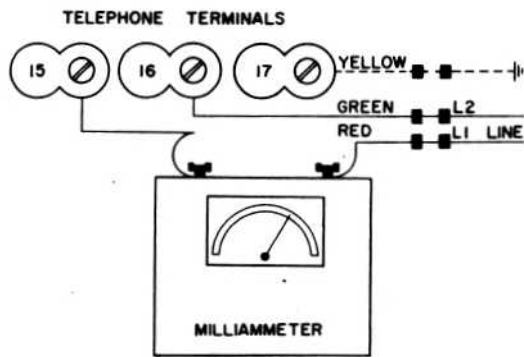

Figure 5. Milliammeter Connection.
- (1) Remove the front cover of the telephone and disconnect the red wire at transmission unit terminal 15.
- (2) Connect a milliammeter between the red lead and terminal 15 so that the milliammeter is in series with the line (Figure 5).
- (3) Take the handset off the hook and vary the loop compensator until the milliammeter reads 60 milliamperes.